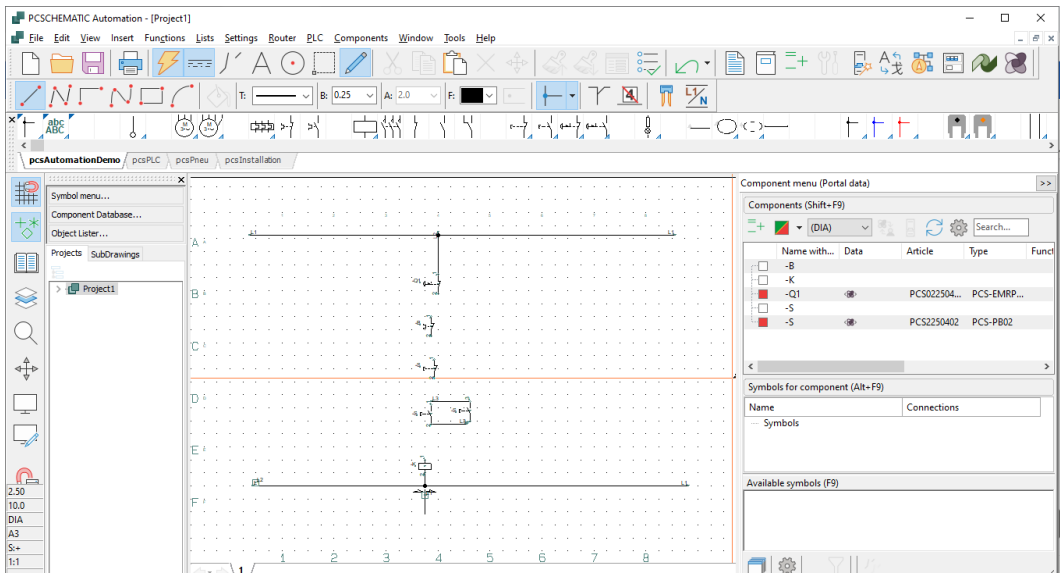

Figure 6.49 – Control circuit of a DOL starter
15. Finally, use the same **Line** tool to join other contacts as shown in *Figure 6.49*.